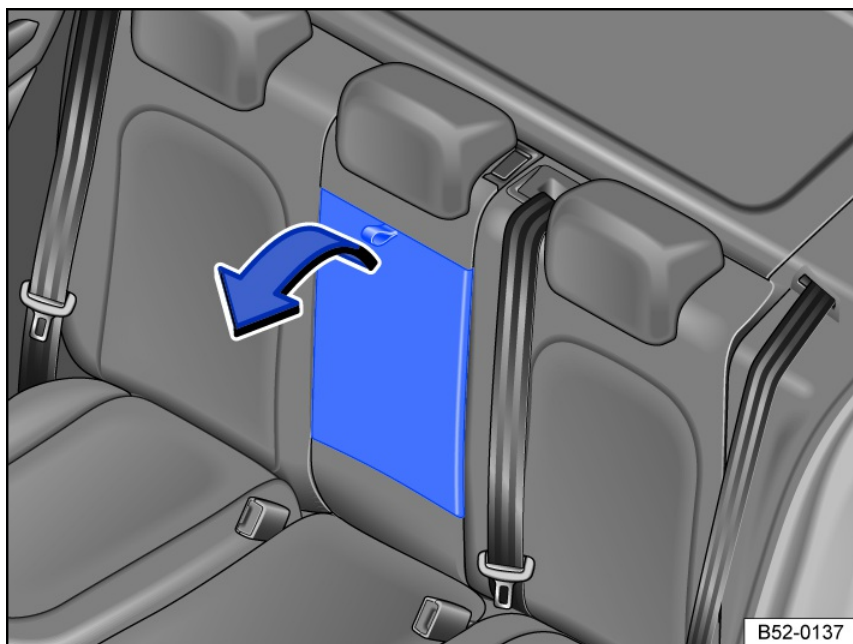

Fig. 93 Rear center armrest
- To *fold forward*: Pull the loop in the direction of the arrow fig. 93.
- To *fold back*: fold the center armrest upward in the opposite direction of the arrow fig. 93 and press it all the way toward the seat backrest.